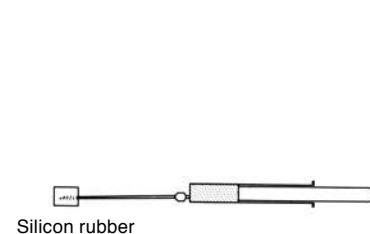

Figure 6: Sampling Syringe
- After carefully drying the syringe (figure 6), flush it two or three times with small amounts of the sample. Then draw in the required amount of the sample.